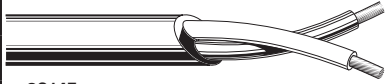

**Fig. 1 Crosstalk Characteristics for S410-4P**
- Low rate of crosstalk between channels is ideal for commercial, multi-way speakers systems. <Fig 1>